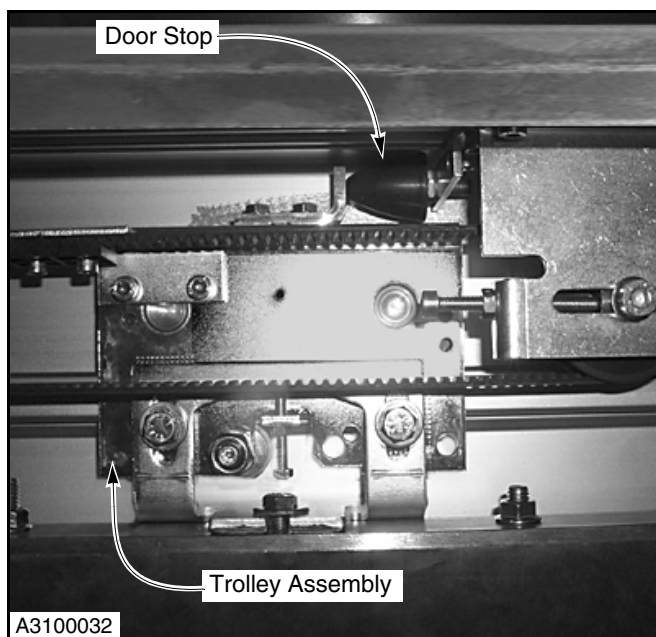

Figure 5
2. Adjust the door stop to the fully open position. (See Figure 5.)